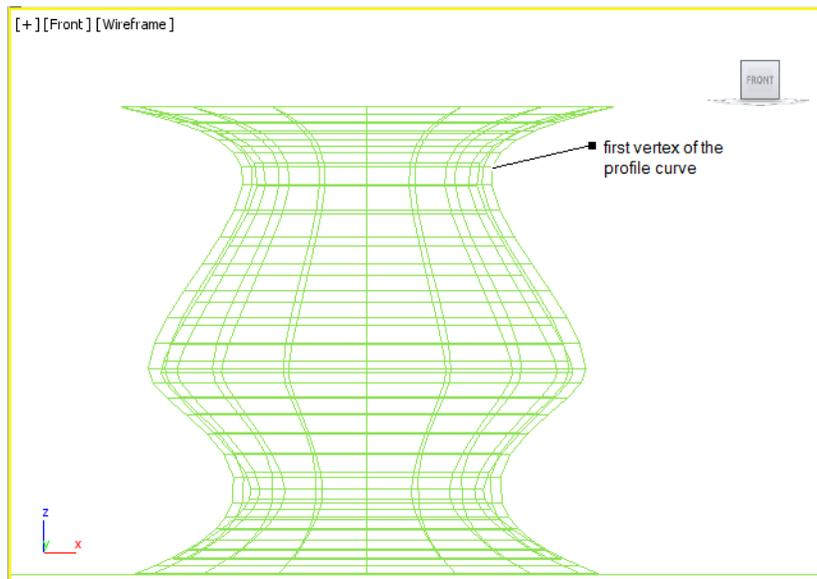

Figure 5-16 The first vertex placed within the profile
3. Click at a point slightly below the neck. Make sure to place it inside the outer line of *Jug*, as shown in Figure 5-16.